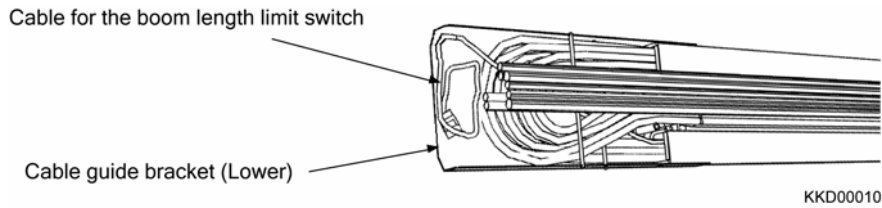

Fig. 2-63
- 8) Wind the cable for the boom length limit switch and then put it on the cable guide bracket (Lower). (Fig. 2-63)